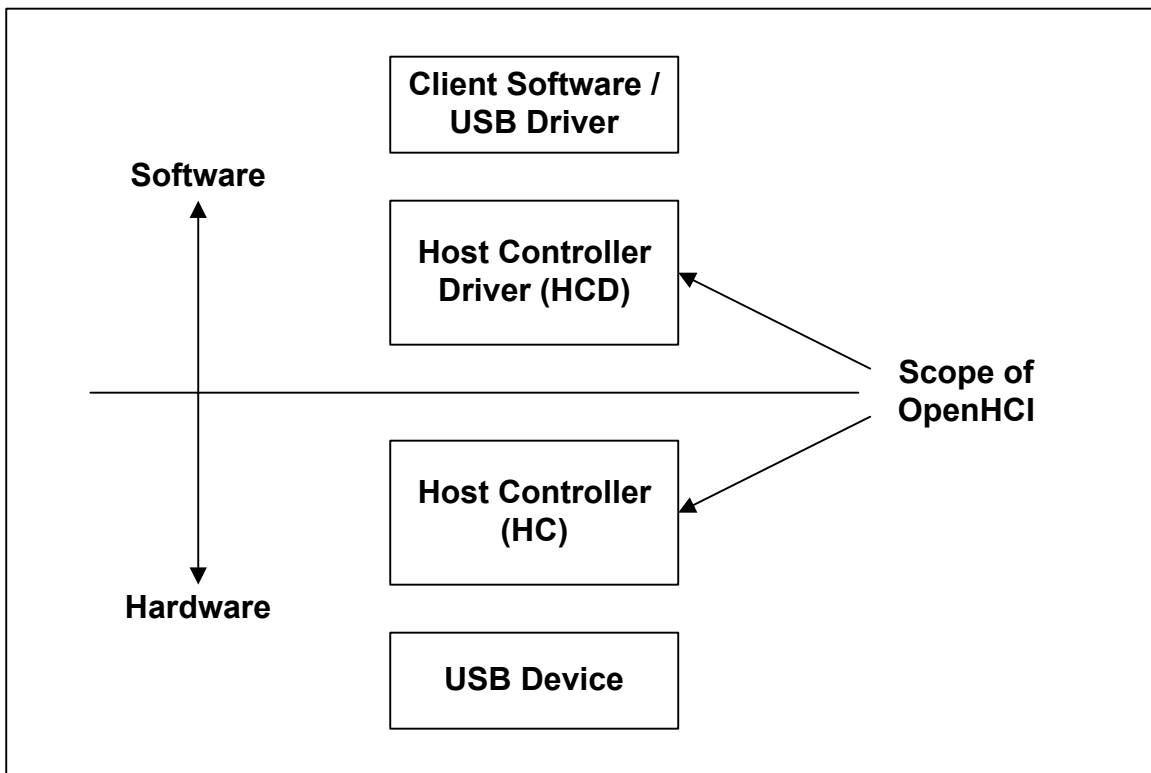

FIGURE 3 - USB SYSTEM
The USB Host Controller fully implements the standard Open Host Controller Interface (OpenHCI) specification and, therefore, is compatible with the standard software drivers written to be compatible with OpenHCI. FIGURE 3 shows a conceptual view of a USB system. A USB system has four primary functional areas. These areas are the Client Software/USB Driver (USB D), Host Controller Driver (HCD), Host Controller (HC), and USB Devices. The Host Controller and USB Devices are implemented in hardware. The Client Software/USB Driver and Host Controller Driver are implemented in software. OpenHCI specifies the interface between the Host Controller Driver and the Host Controller and the fundamental operation of each.